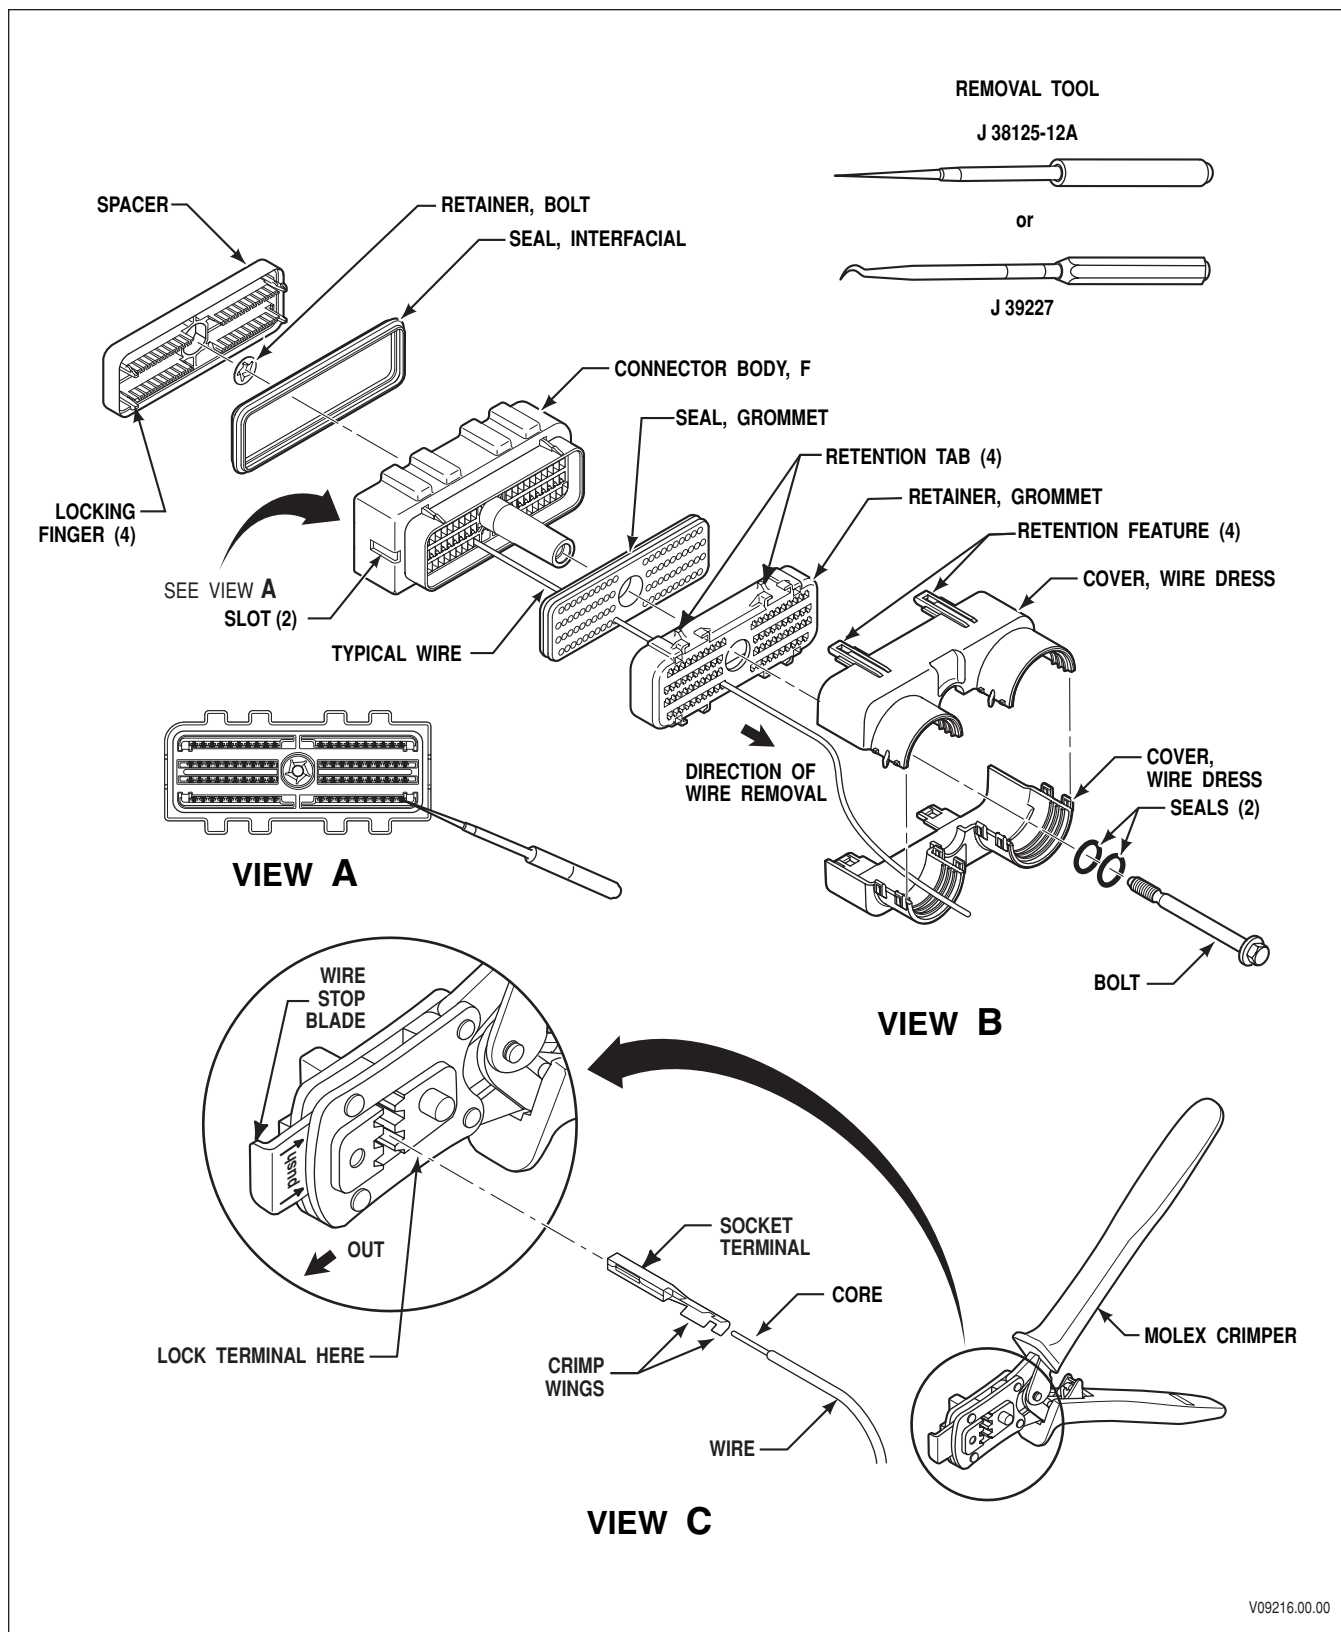

Figure E-1A. AFL 80F Bolt-Assist TCM Connector
#### A. TCM Connector, Assembly 80F Bolt Assist (refer to Figure E-1A)
- Loosen the bolt (Figure E-1A, B, or C, View B) that retains 80-way connector to the transmission control module (TCM).
- Refer to Figure E-1A, View B. Use a small-bladed screwdriver to gently unlatch the retention features (4) of the wire dress cover and separate the two halves.
- Insert a small-bladed screwdriver in between the connector body and the grommet retainer (Figure E-1A, B, or C, View B) and carefully pry the grommet retainer away from the connector body. Slide the grommet retainer along the wires away from the connector body. If the grommet seal stayed with the connector body, also slide it away from the connector body and seat it into the grommet retainer, allowing better access to the wires.
7. Insert the metal blade of J 38125-12A or J 39227 removal tool into the small hole in the front of the connector body above or below the desired terminal/wire lead cavity location (See Figures E-1A, B, or C, View A).
2. Refer to Figures E-1A, B, or C, View C. Pull out the wire stop blade of the crimping tool so it is clear of the terminal crimp area. Place the terminal all the way into the appropriate wire size opening of the J 47139 crimping tool until it contacts the stop and is properly oriented. Squeeze the handle enough to keep the terminal in place in the tool but not enough to compress the crimp wings.